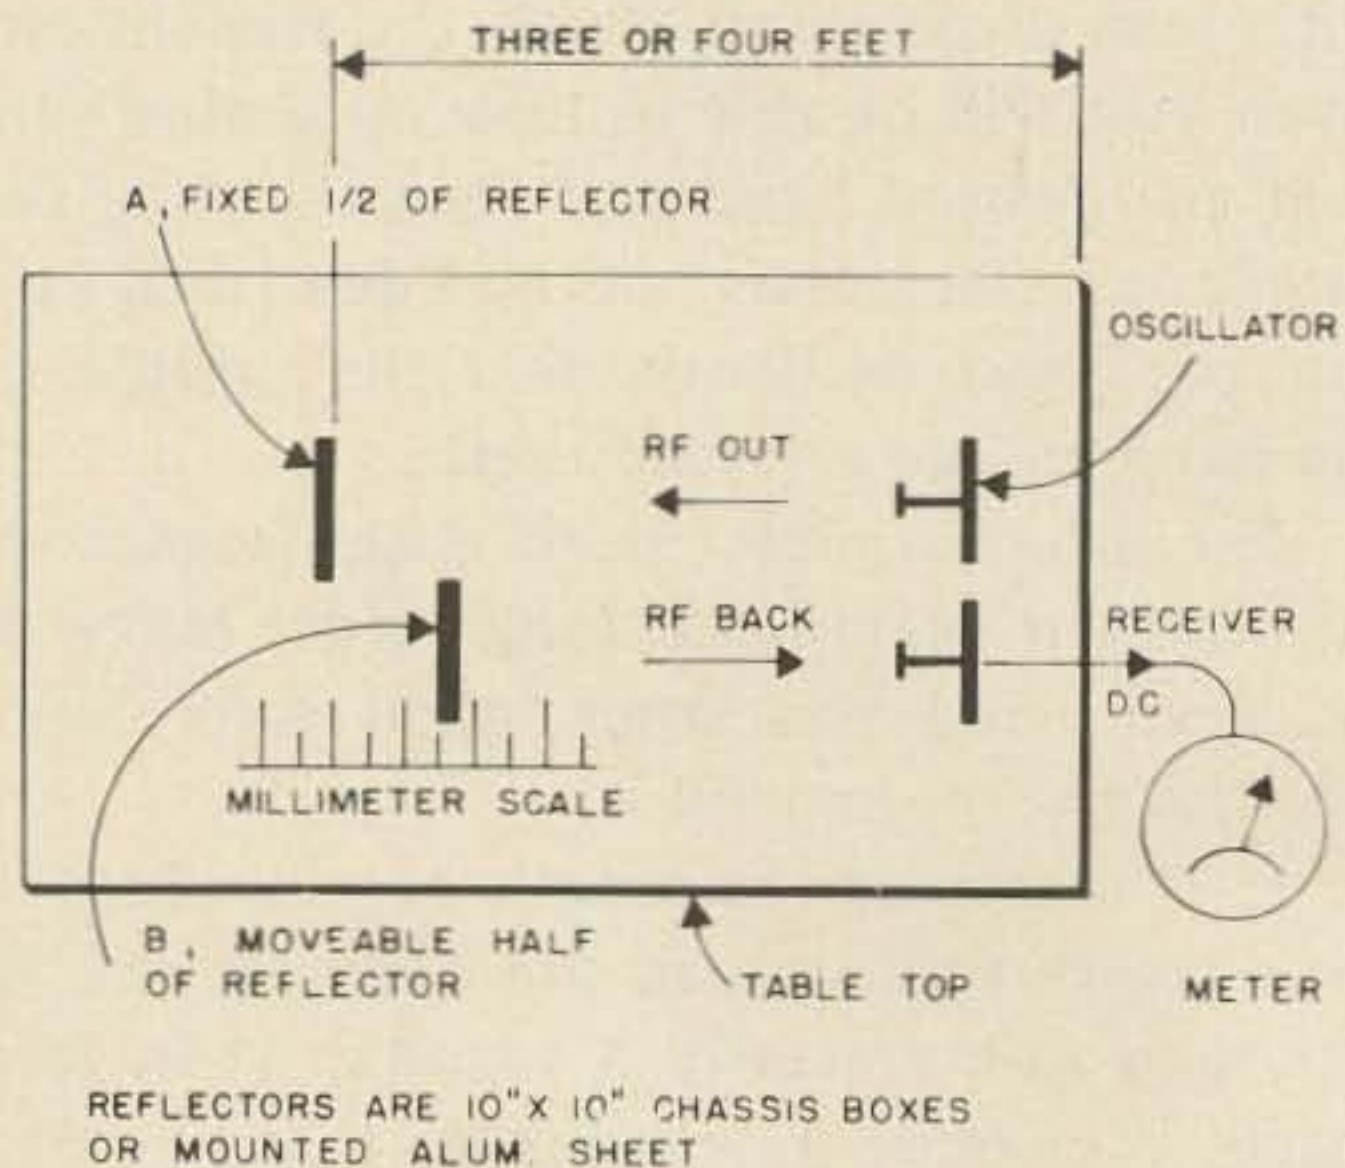

Fig. 9. Frequency measurement setup and interferometer details.
1. Set up as shown in Fig. 9, "Frequency measuring setup for 432, 1296, 2300, and 3500 MHz."